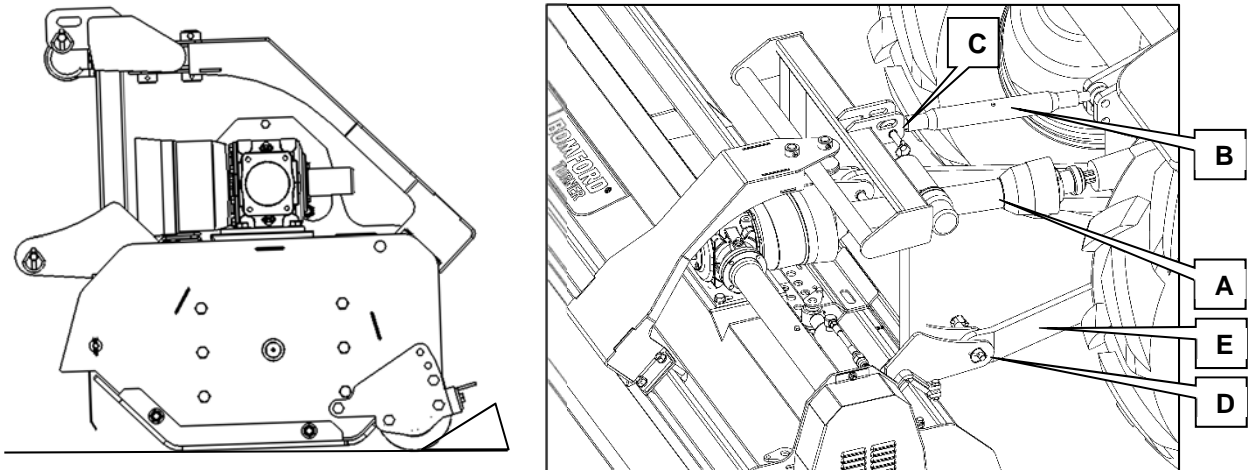

Figure 8.1
- 8.2.1.1** To prevent the risk of rolling, locate a safe place with firm flat ground on which to store the flail mower. If necessary wedge the roller to prevent inadvertent movement, see Figure 8.1.